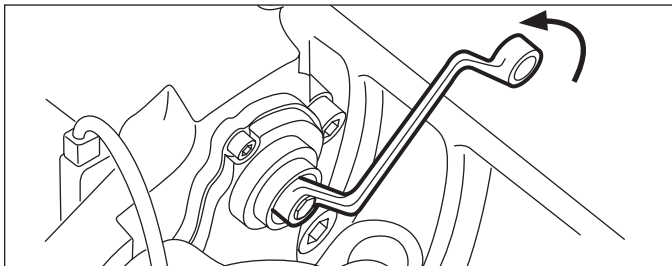

Figure 36 – Backing Off the Adjuster for Pad Removal
4.2.8 Use a 10 mm, six-point box wrench (See Figure 36) to turn the adjuster counterclockwise until sufficient space exists to remove the brake pads. A clicking noise occurs each time the adjuster turns.
- 4.2.19 Using the same tool, turn the shear adapter (61) **counterclockwise** and listen for the sound of three (3) clicks as the mechanism backs-off (increases) the running clearance. See Figure 36.